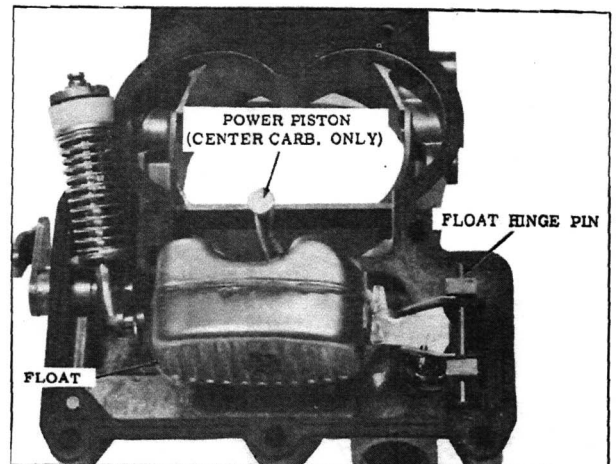

Fig. 19 Air Horn Assembly
6. Invert air horn on flat surface. Remove float hinge pin and lift float assembly from cover. Float needle may now be removed from float. (See Fig. 19)